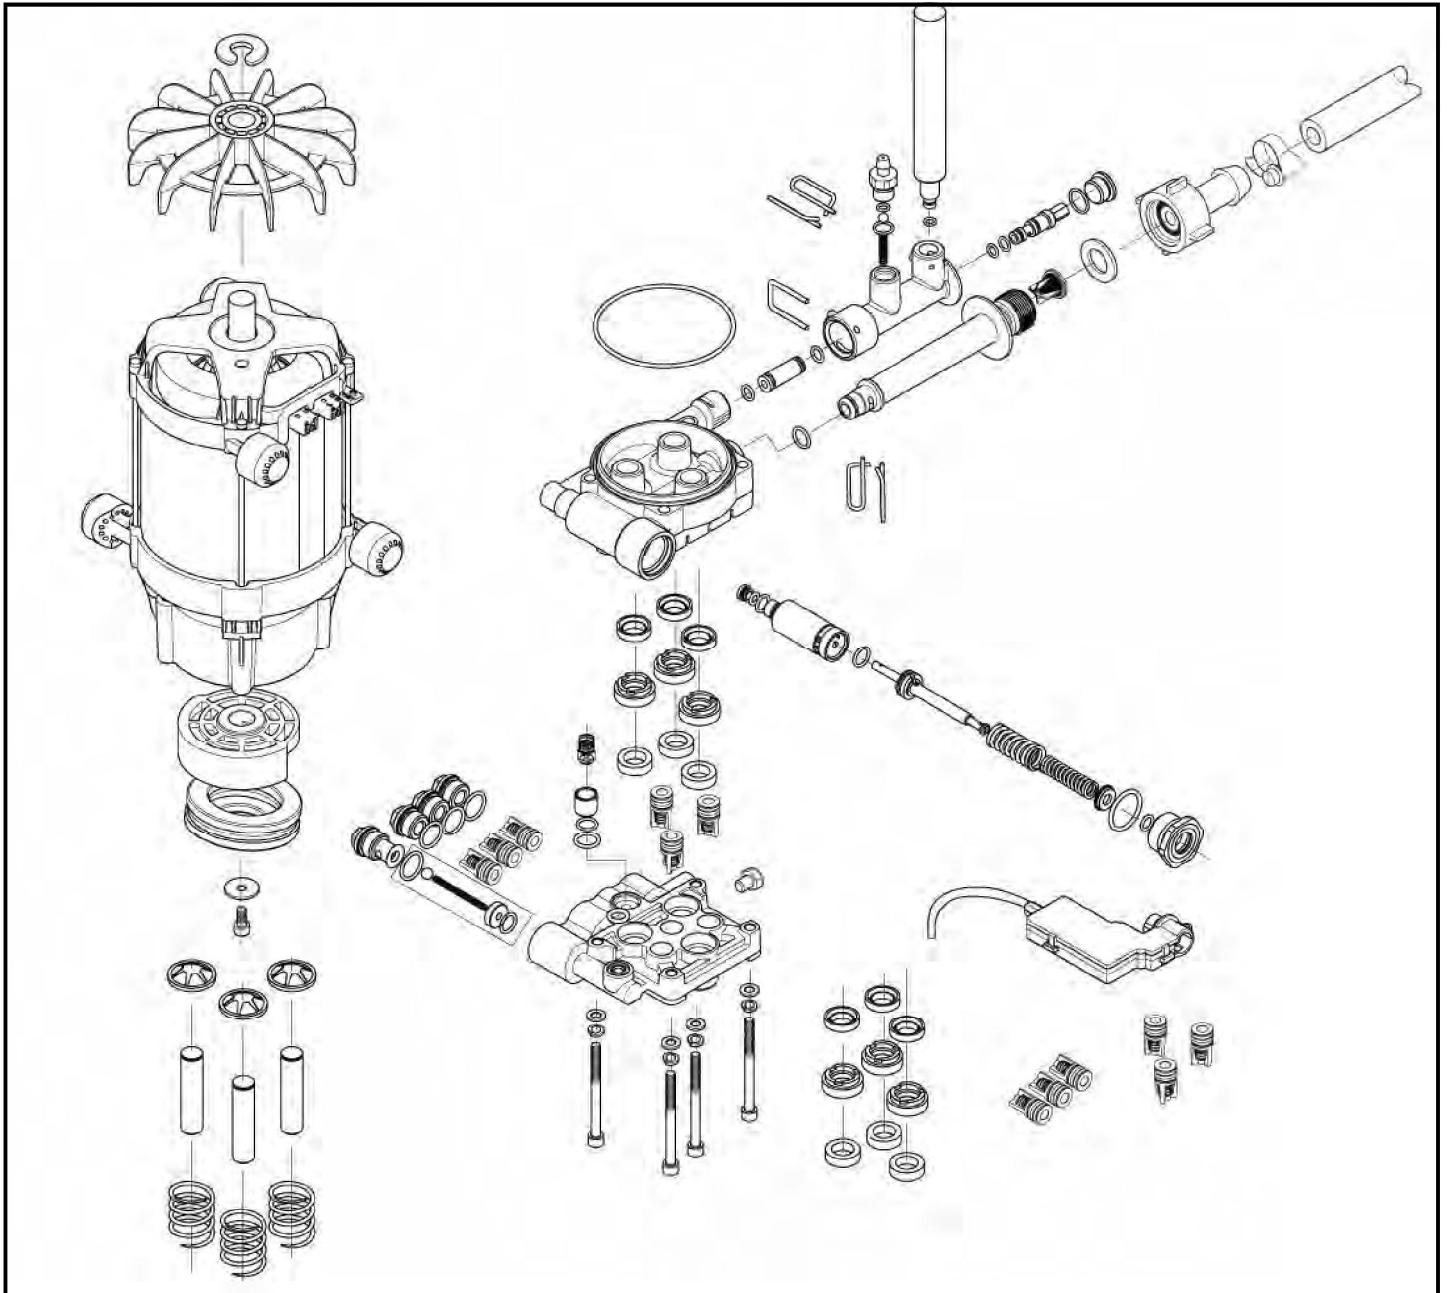

Fig.F.46: Motor/pump unit complete
- Take out the valve seat by means of e.g. an impact piercer (Fig.F.46).